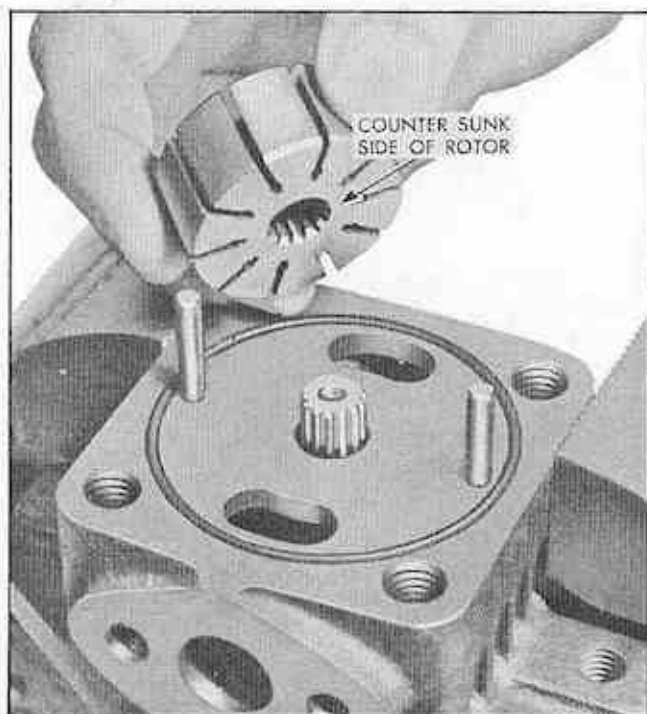

Fig. 100 Removing Pump Rotor
11. Remove pump rotor (Fig. 100).